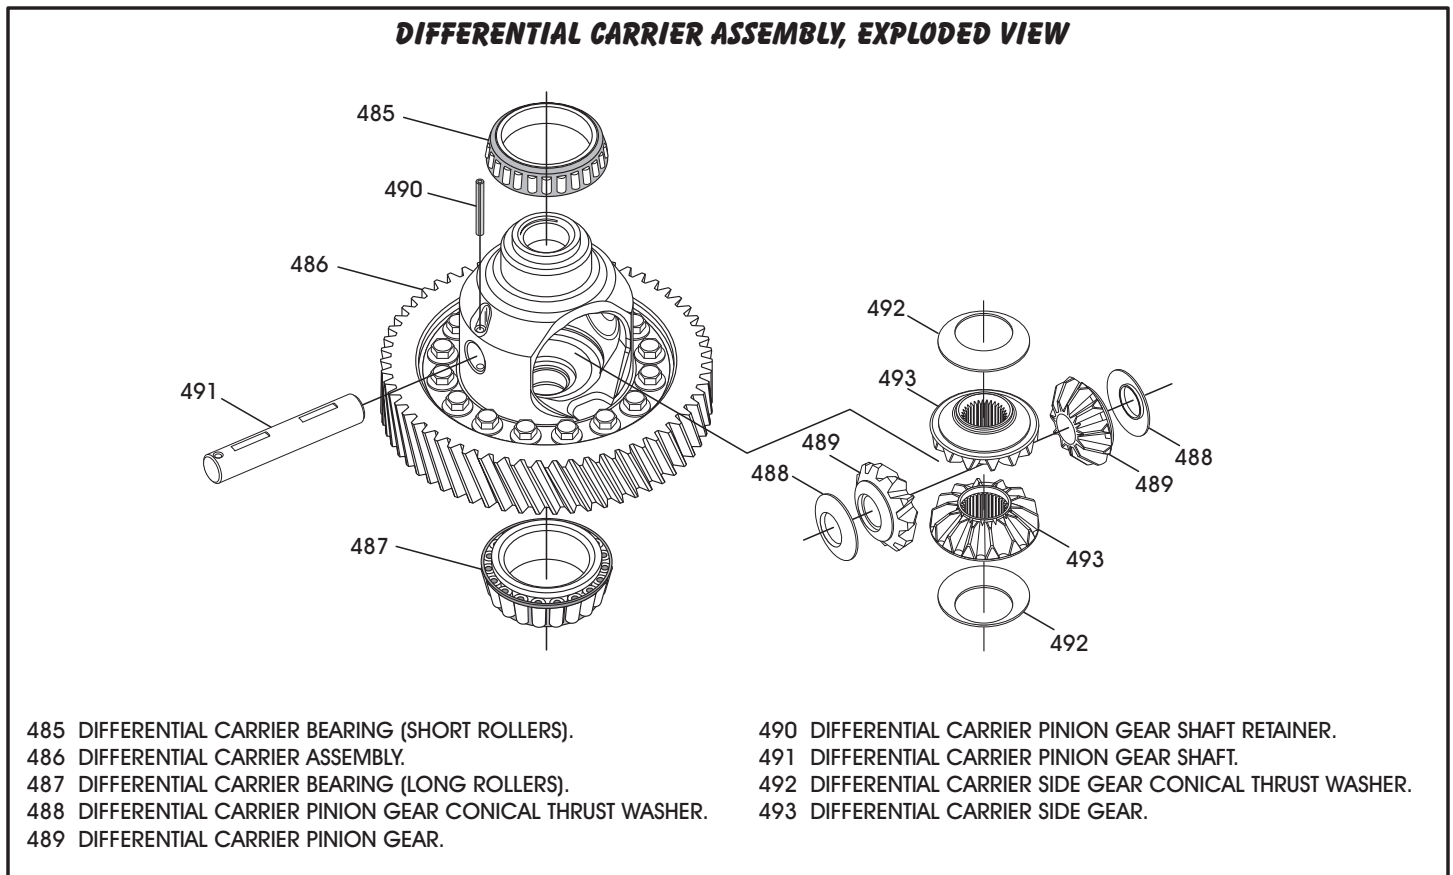

Figure 85
2. Disassemble the differential carrier assembly using Figure 85 as a guide.